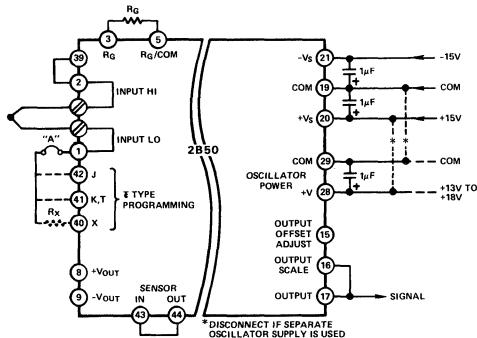

Figure 2. Basic 2B50 Application
The connections shown in Figure 2 are common to most applications using the 2B50, and, in many cases, will be all that is required.
Two sets of parallel thermocouple input connections are provided. The thermocouple input may be connected by screw terminals (Input+, Input-) or to terminal Pins 1(-) and 2(+) in cases where thermocouples are to be remotely terminated. The following sections describe a basic thermocouple application, as well as detail some optional connections to enhance performance in more demanding applications. Jumper A (Figure 2) is used to disconnect cold junction compensation circuitry during offset adjustments.
The gain of the 2B50 is set by a user-supplied resistor (R_G) connected as shown in Figure 2. Gain will normally be selected so that the maximum output of the signal source will result in a plus full scale output swing. The resistor value required is determined by the equation: $R_G = 200k\Omega/G-1$.
2. Disconnect cold junction compensation circuitry by removing Jumper "A" (Figure 2).